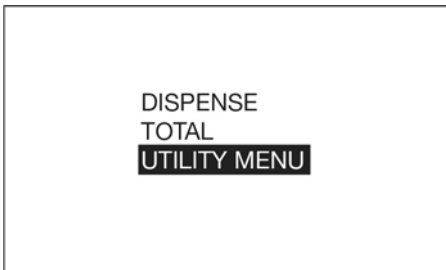

FIG. 11
2. Select the UTILITY MENU option (FIG. 11). (Instructions for accessing Menus are provided in the Menu Screens section of this manual, page 17.)